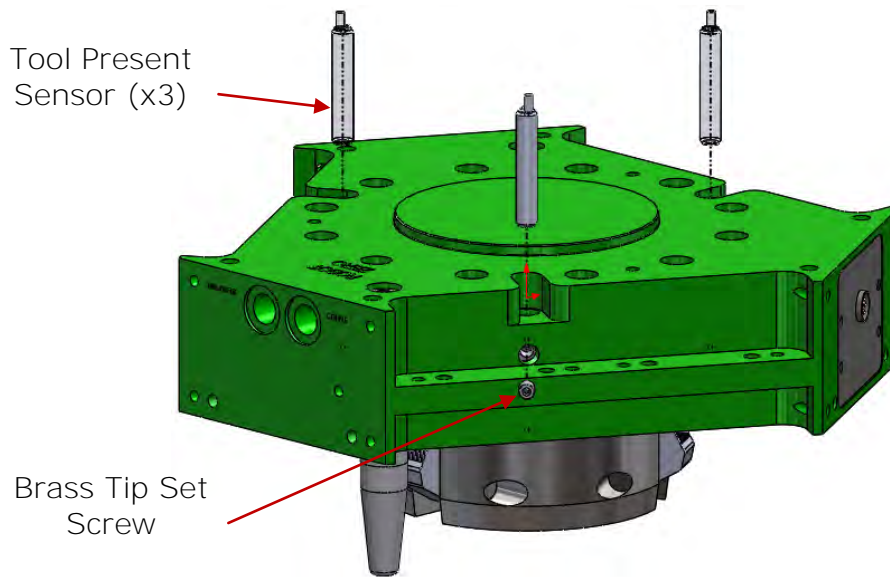

Figure 5.5-1. Tool Present Option
The E160 Tool Changer contains built in features for Tool Present detection via proximity sensors (Figure 5.5-1). This option allows for up to three (3) Tool Present sensors to be installed and the signals to be monitored either individually or in series providing a single output signal to ensure parallelism between the Robot Adaptor and Tool Adaptor during docking.